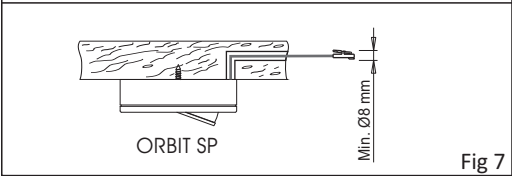

Fig 7
- If necessary, bore a $\varnothing \geq 8$ mm exit hole for the power supply cable as illustrated in figure 7.